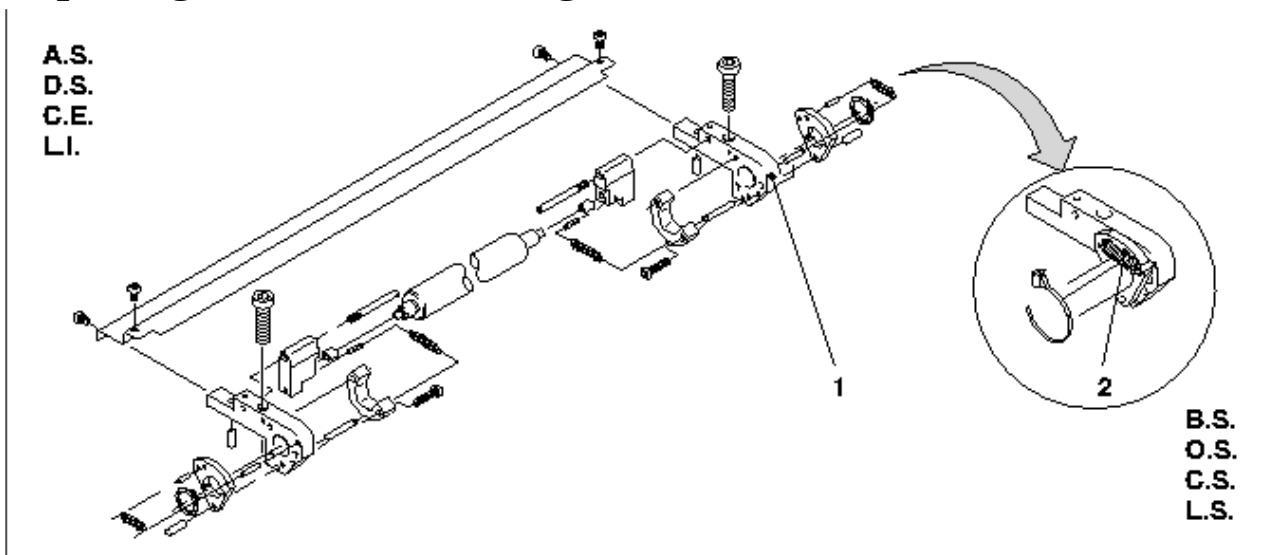

Fig. 10 Blanket washup device
3. Remove the tension spring (Fig. 10 /2) and cable tie on O.S.
4. Remove O.S. bearing holder (Fig. 10 /1) with cover plate from the shaft in the direction of O.S.